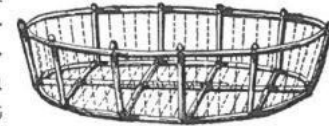

Fig. 3.
4. Bend two more main willows for gunwales for the boat, and two more for bottom rails. Each separate stick, as will be perceived by fig. 3, is lashed in five different places, and the keel in eight places.
5. Fasten a large number of little slender willow-twigs between each of the main cross-knees, as shown by the thin lines in fig. 3. It is then fit for covering. Lift it up like a basket, and turn it topsy-turvy.